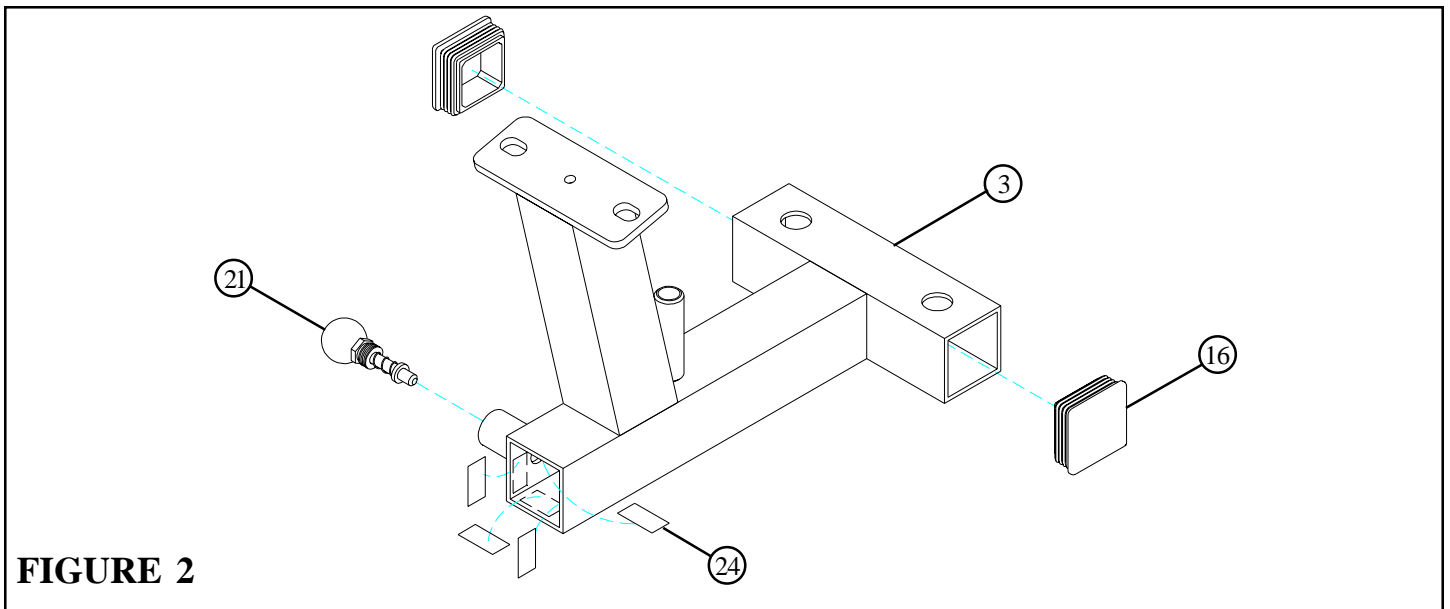

FIGURE 2
- Insert two 2" END CAP (16) into the ends of the STACK BASE (3) as shown in FIGURE 2.
- Attach four 3/4 X 1-1/2" GLIDES (24) to the inside of the tube on the STACK BASE (3) as shown in FIGURE 2 using the following steps:
- Thoroughly clean all surfaces where the 3/4 X 1-1/2" GLIDES (24) are to be attached.
- Remove the 3/4 X 1-1/2" GLIDES (24) from the paper backing and firmly apply them to all shown surfaces.
- **SECURELY** assemble one SPRING PIN ASSEMBLY (21) to the spring pin barrel on the STACK BASE (3). See FIGURE 2.